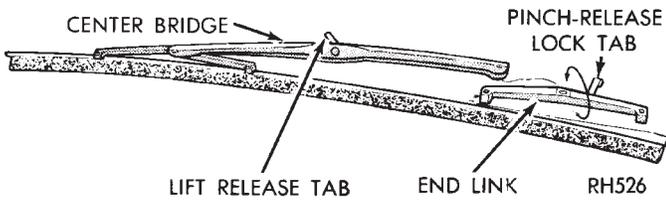

Fig. 4 Wiping Element from Blade Assembly
- Slide end link off element from claws of other link (Fig. 4), or by grasping the rubber element where the channel is and pull the element out for replacement.
(5) To install reverse above procedures.